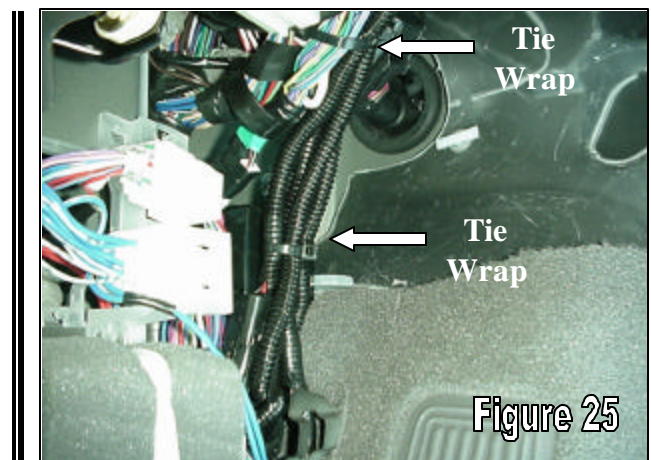

Figure 25
- Use supplied wire connectors and attach to your Power and Ground. After wire harness is routed use supplied tie wraps to anchor down wire harness. See Figure 25. Reinstall all interior pieces. This will complete install.